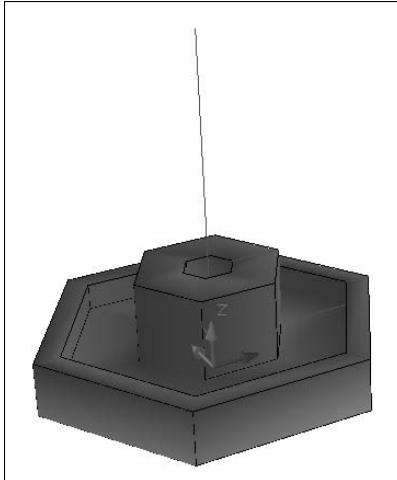

**Figure 23-26:** The revolved surface.
7. Save your drawing. It should look like Figure 23-26.